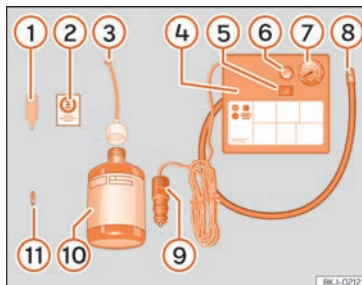

**Fig. 41** Standard representation: anti-puncture kit contents.
» **Fig. 41:**
• Unscrew the tyre valve cap and insert. Use the » **Fig. 41** 1 tool to remove the insert. Place it on a clean surface.
• Shake the tyre sealant bottle vigorously » **Fig. 41** 10.
• Screw the inflator tube » **Fig. 41** 8 into the sealant bottle. The bottle's seal will break automatically.
• Remove the lid from the filling tube » **Fig. 41** 3 and screw the open end of the tube into the tyre valve.
- Place the insert back into the tyre valve using the tool »» Fig. 41 ①.
- Screw the compressor tyre inflator tube »» Fig. 41 ⑧ into the tyre valve.
- Check that the air bleed screw is closed »» Fig. 41 ⑥.
- Insert the connector »» Fig. 41 ⑨ into the vehicle's 12-volt socket »» page 159.
- Turn the air compressor on with the ON/OFF switch »» Fig. 41 ⑤.
- Attach the sticker »» Fig. 41 ② to the instrument cluster, within the driver's visual field.
Screw the inflator tube »» Fig. 41 ⑤ again and check the pressure on the gauge ⑥.